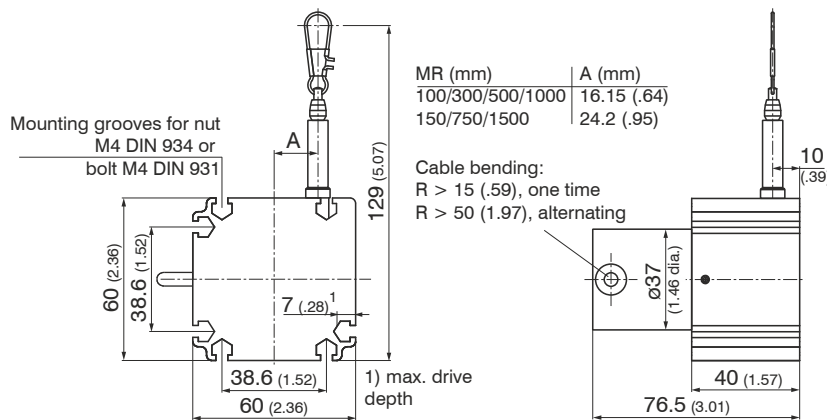
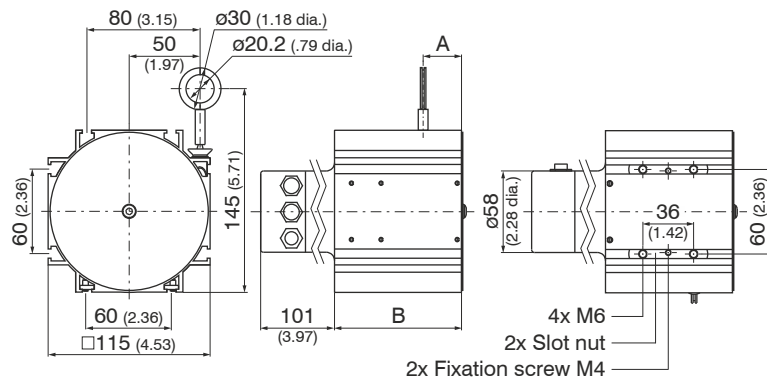

Fig. 2 Dimensional drawing ... - FD60 - CR - P, dimensions in mm (inches), not to scale
Fig. 16 Dimensional drawing ... - FD115 - CO/PB, dimensions in mm (inches), not to scale
- Mount the sensor through mounting grooves for nut M4 DIN 934 or bolt M4 DIN 931, see Fig. 2 up to, see Fig. 16